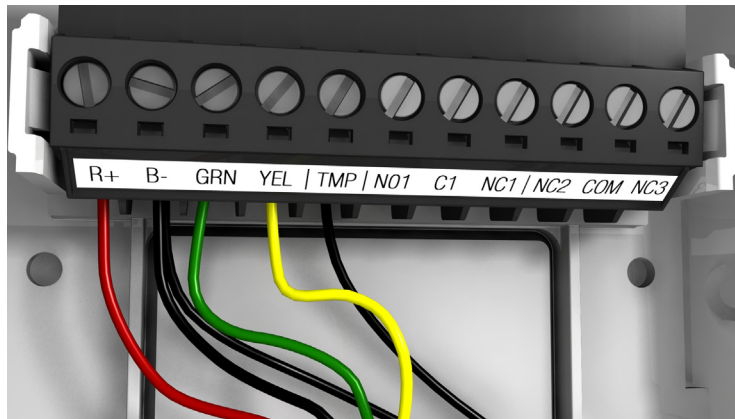

Figure 8: Digiplex Wiring
9. Connect your 12 VDC power input (red and black) to their respective terminals. Connect the Digiplex EVO communication bus into the green and yellow terminals (see Figure 8). To connect wires to the other contacts, please refer to Table 1.
18. Connect your 12 VDC power input (red and black) to their respective terminals. Connect the EVO communication bus into the green and yellow terminals (see Figure 8). The black wire from the tamper switch goes to the B-terminal along with the black wire from the 12VDC power. The blue wire from the tamper switch goes to the TMP terminal on the bus connector.